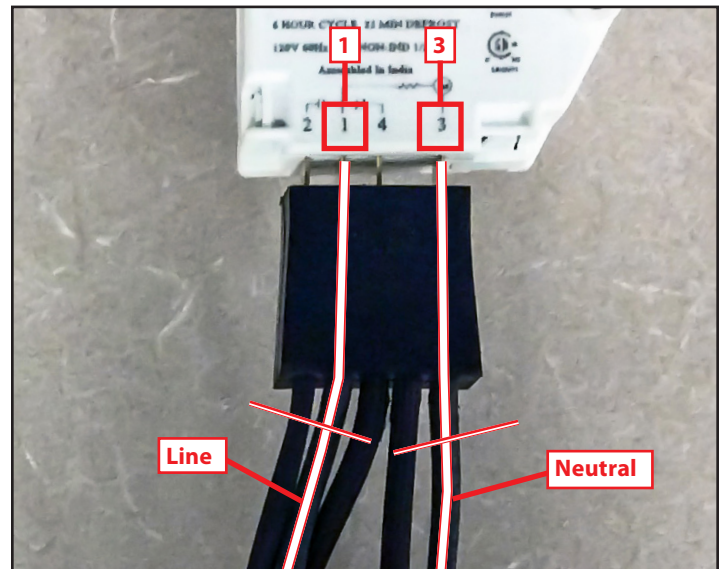

Fig. 15. Cut the marked wires close to the timer plug as shown by the dashed lines. Be sure the labels stay on the marked wires.
2. Mark the wire connected to terminal 1 as **Line**. See fig. 15.
3. Mark the wire connected to terminal 3 as **Neutral**. See fig. 15.
4. Cut the marked wires. See fig. 15.